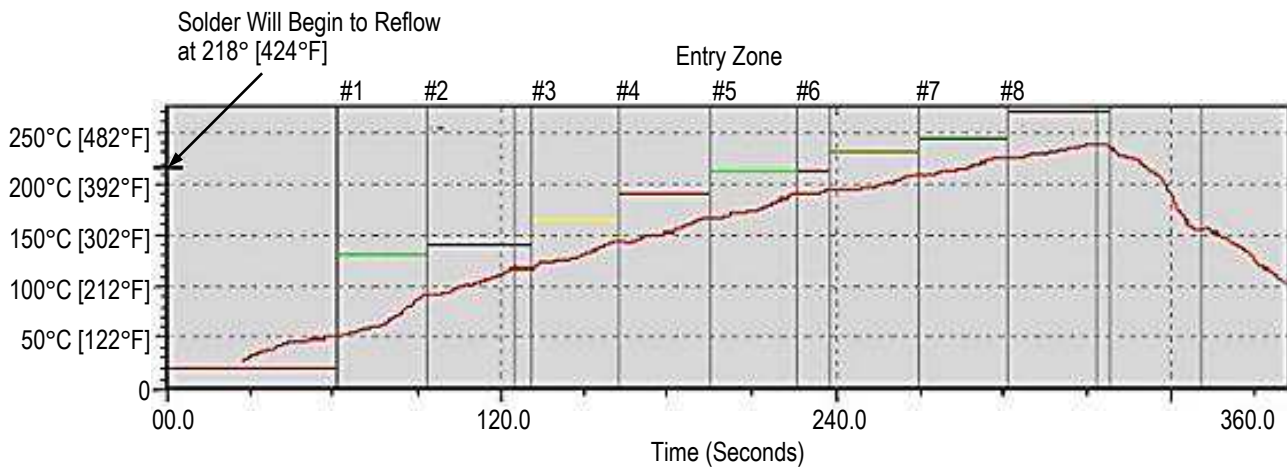

Figure 6 (Cont'd)
The connector must be soldered using non-focused infrared (IR) reflow or equivalent soldering technique. Reflow temperature and time may vary depending on the size of the pc board and placement of other components. This connector can be subjected to the reflow temperature and approximate time specified in Figure 6.
It is recommended that component temperatures not exceed the temperatures and times given in Figure 6.